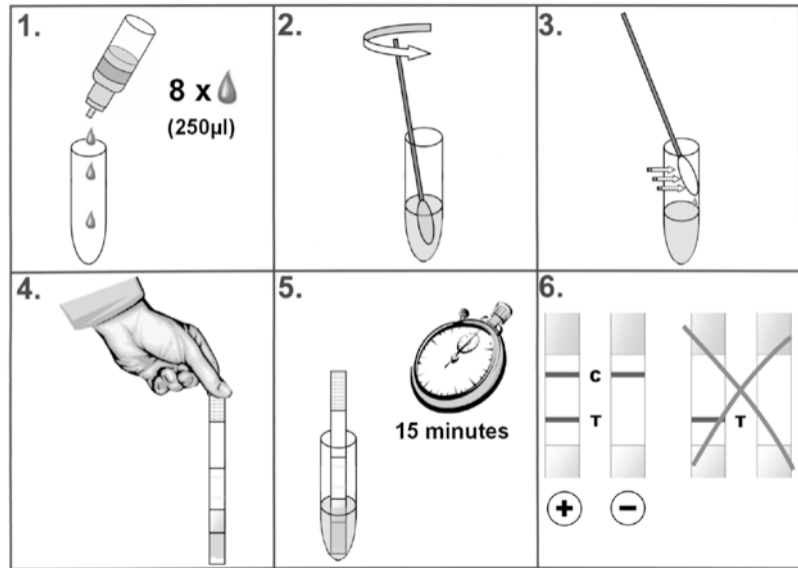

FIGURE 1 - Sample Extraction and Test Procedure – Method “A”
- Place 8 drops (approximately 0.25 mL) of Extraction Buffer in the test tube provided (Figure 1, Step 1).
- Place the swab containing the specimen in the tube and rotate the swab 5 - 10 times in the buffer (Fig. 1, Step 2).
- When removing the swab from the tube, press the swab against the side of the tube repeatedly until no more liquid comes from the swab (Fig 1, Step 3).
- Remove a test strip from the desiccant vial for each sample to be tested. Handle the test strip on the labelled portion of the strip. (Fig. 1, Step 4).
- Place the test strip directly into the test tube containing the sample. Place test strip so that the pink pad is submerged in the extracted sample. Incubate the test strip in the sample for 15 minutes. (Figure 1, Step 5).
- Place the test strip directly into the test tube containing the sample. Place test strip so that the pink pad is submerged in the extracted sample. Incubate the test strip in the sample for 15 minutes. (Fig. 1, Step 5).
- After 15 minutes, observe the presence or absence of pink/purple bands in the center of the test strip between the two absorption pads (Fig.1, Step 6).
- The test is **VALID** if the Control Line (pink/purple band) develops in the upper part of the test strip. The absence of the Control Line indicates that the test is invalid and must be repeated (Fig. 1, Step 6).
- **NEGATIVE** for Equine Influenza Virus: A single pink/purple band (Control Line) is present in the upper part of the test strip (C). A **NEGATIVE** result indicates that no detectable Influenza Virus Type A is present in the sample.